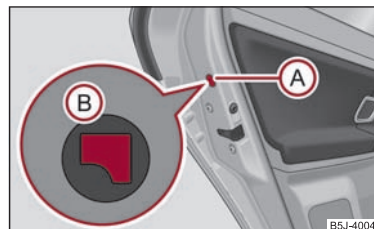

Fig. 28 Emergency locking of the door
- Remove the panel (A) ⇒ page 39, fig. 28.
- Insert the key into the opening under the panel and press the stopping lever (B) as far as the stop toward the inside.